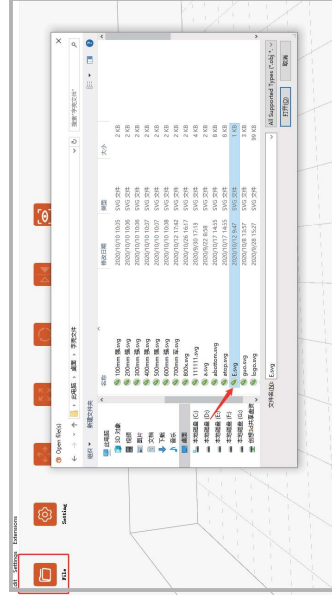

Figure3-01
1. Open the slice software SolaYin, click [File], and import the file in SVG format (as shown in Figure 3-01).